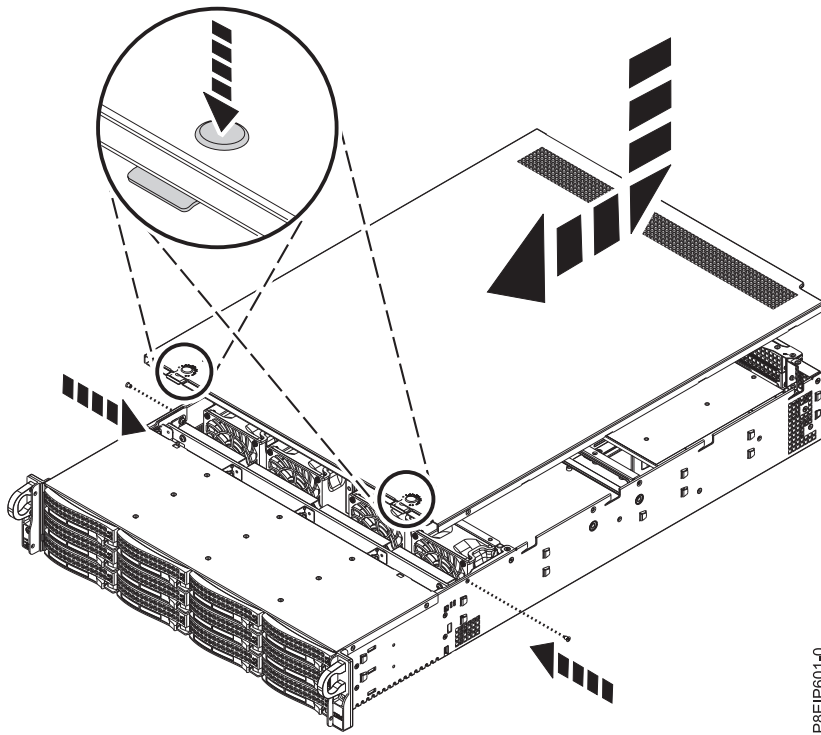

Figure 96. Replacing and securing the cover
- Slide the cover forwards until it latches into place as shown in Figure 96.